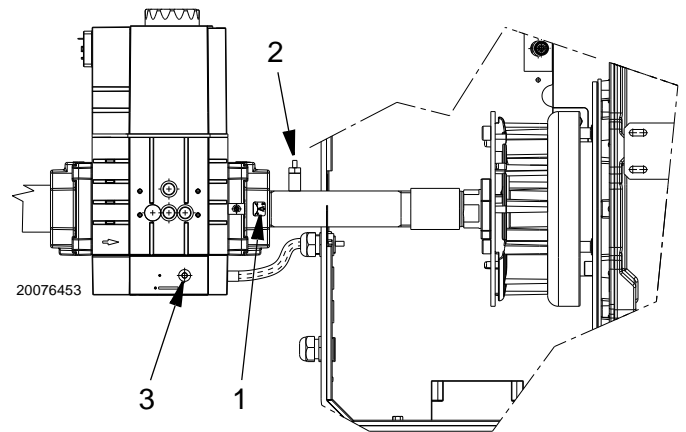

Fig. 165
Turn the screw V1 of the gas valve lightly towards the "+" sign (Fig. 165 on page 53).
- Turn the screw V1 towards the "+" sign (Fig. 165 on page 53).
- Check the appearance of the flame, if possible, or the value of the CO and CO₂ to understand whether the burner has been sufficiently calibrated (first maximum calibration). If necessary use the screw V2 of the gas valve (turn towards the "+" sign to increase the gas, towards the "-" sign to decrease the gas) (Fig. 165 on page 53).
- Check the appearance of the flame, if possible, or the value of the CO and CO₂ to understand whether the burner has been sufficiently calibrated (first maximum calibration). If necessary use the screw V1 of the gas valve (turn towards the "+" sign to increase the gas, towards the "-" sign to decrease the gas) (Fig. 165 on page 53).
- to increase the gas delivery and the CO₂: turn the V1 screw towards the "+" sign (Fig. 165);
- to reduce the gas delivery and the CO₂: turn the V1 screw towards the "-" sign (Fig. 165);.
Key (Fig. 165)